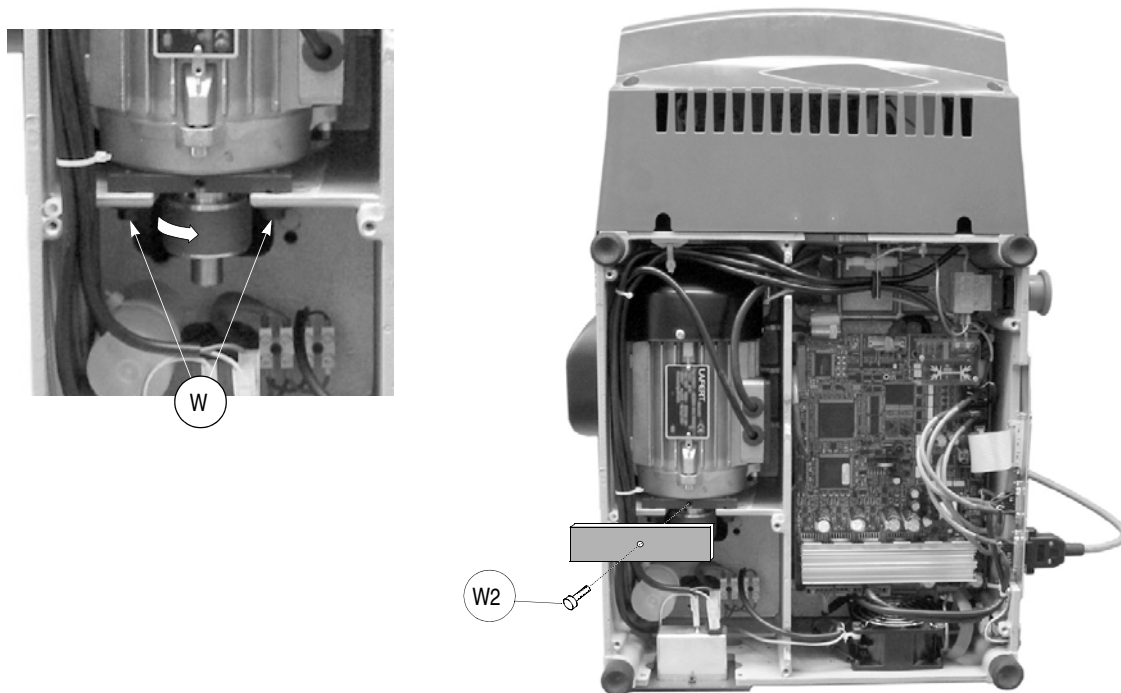

Fig. 45
- 4) loosen the 4 screws (W) securing the motor (fig. 45).
- 8) tighten the 4 (W) screws back into place, securing the motor.
- 3) loosen the 4 screws (W) securing the motor (fig. 45).
- 5) tighten the 4 (W) screws back into place, securing the motor.